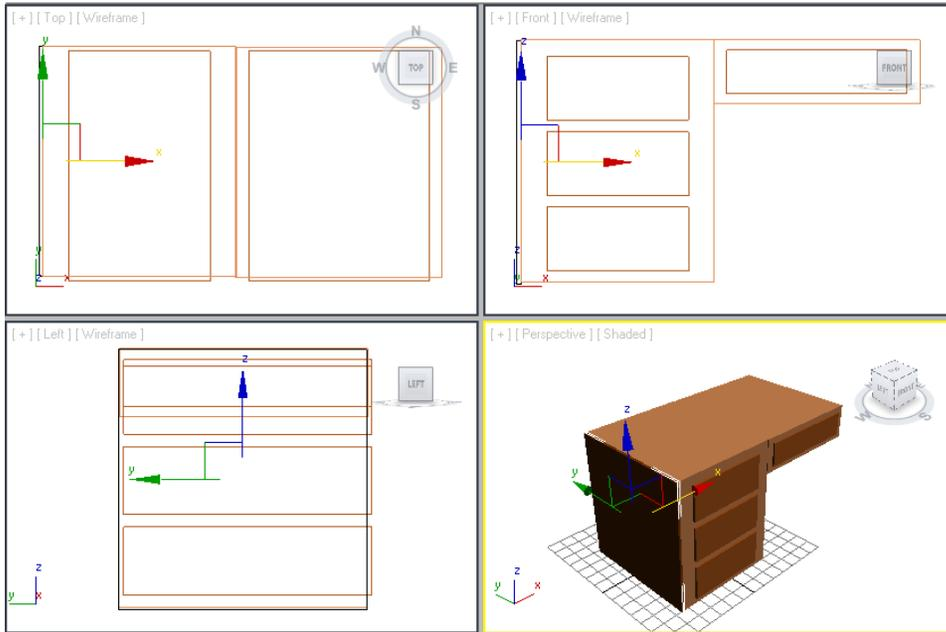

Figure 2-47 Alignment of *left face001* with left side of the left box
3. In all viewports, align *left face001* with the left side of *left box* using the **Select and Move** tool, as shown in Figure 2-47.